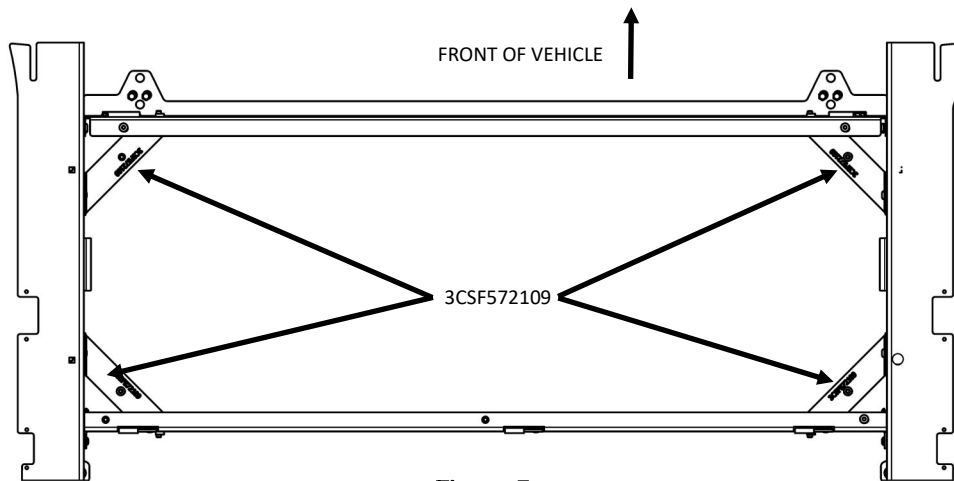

Figure 5
1. Locate (4) [3CSF572109] Electronics Floor Supports, (8) [3X258] 1/4"-20x1/2" button head cap screws, and (2) [2422] 2" grommets.
2. Loosely install (1) floor support in each of the four corners of the electronics compartment (Figure 5). Flanges will face up towards the roof of the vehicle. Screws will be tightened in a future step.